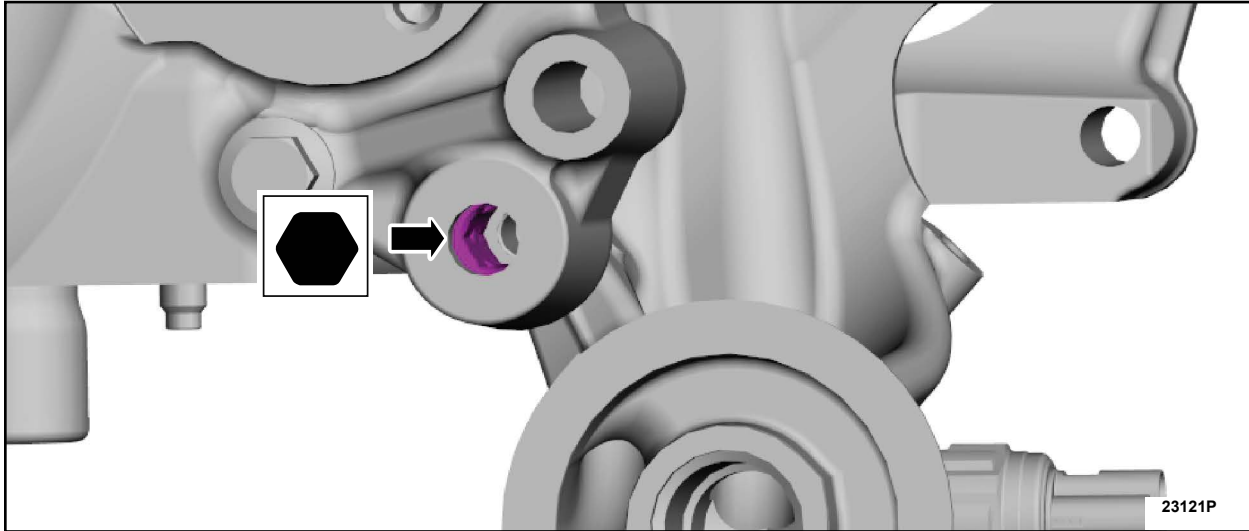

FIGURE 13
27. Using a 10 mm Hex Bit loosen the engine front cover-to-oil filter adapter jack screw. See Figure 13.